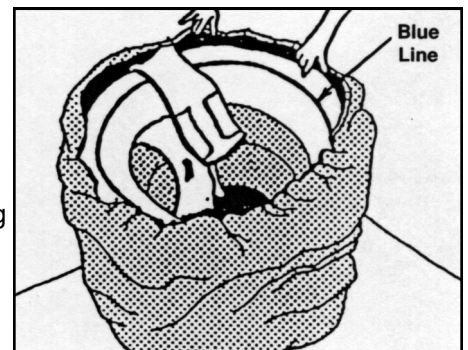

Figure 2a
- **Special Note:** When placing tubes in barrel cover, have the **blue line** facing out on the outside tubes. (See Figure 2a).